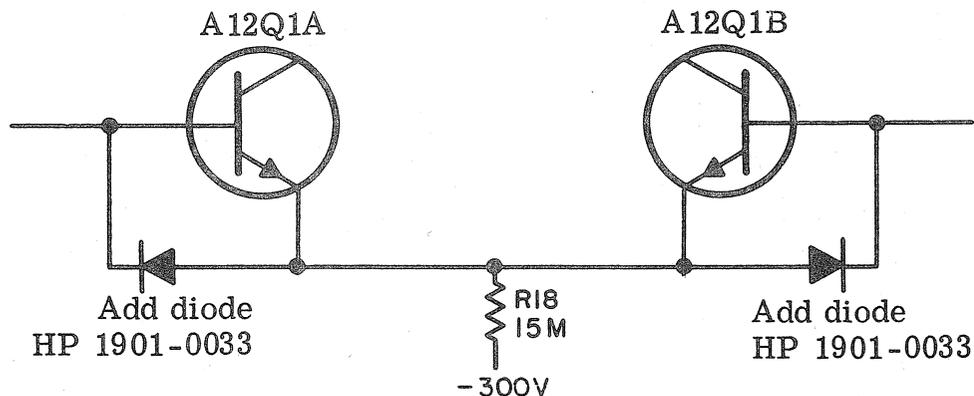

Figure 1. Schematic, Modified ALC Amplifier
4. Install two diodes as shown in the schematic, Figure 1. The diodes are HP Part Number 1901-0033.